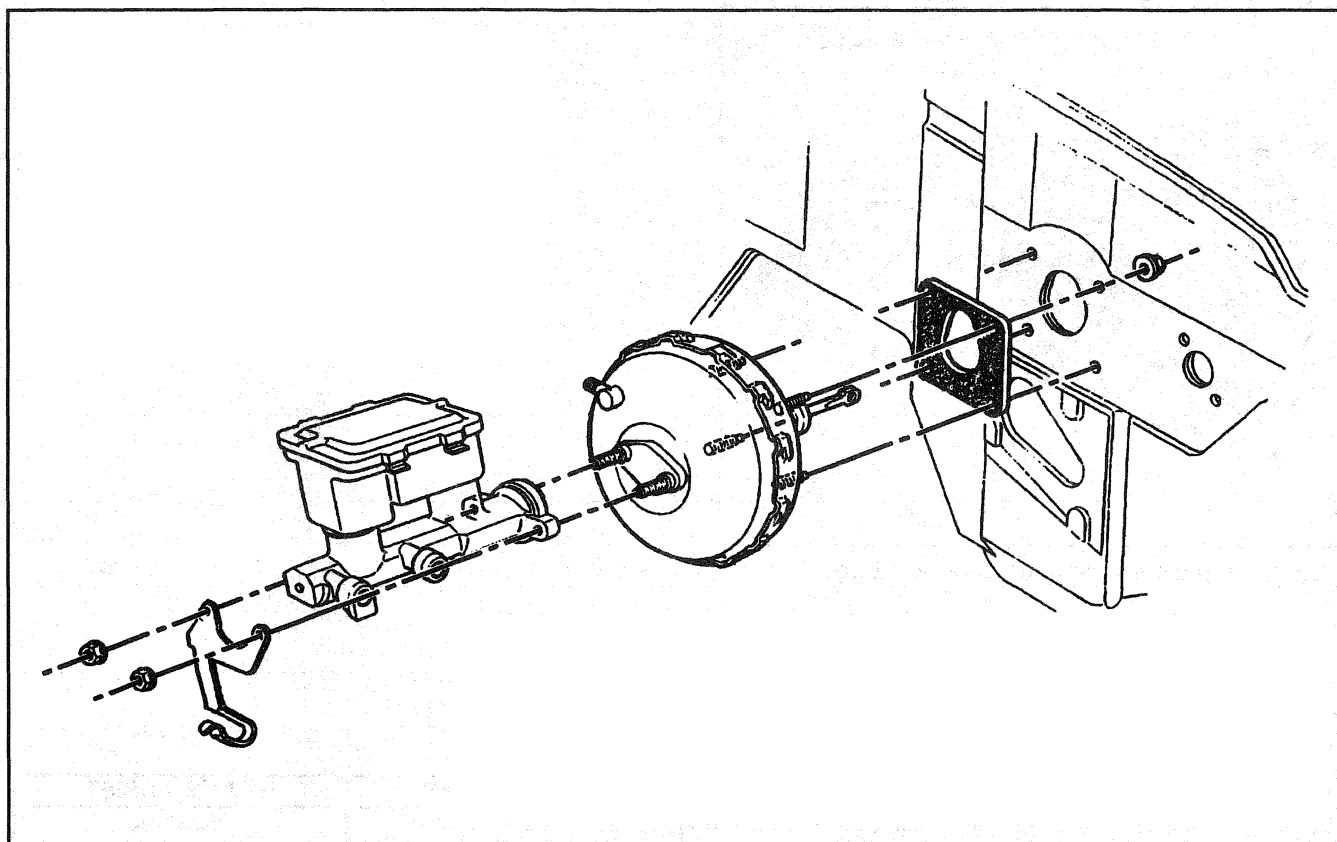

Figure 1—Vacuum Booster
**Remove or Disconnect (Figures 1 and 2)**
**Install or Connect (Figures 1 and 2)****NOTICE:** Refer to "Notice" on page 5D1-1.